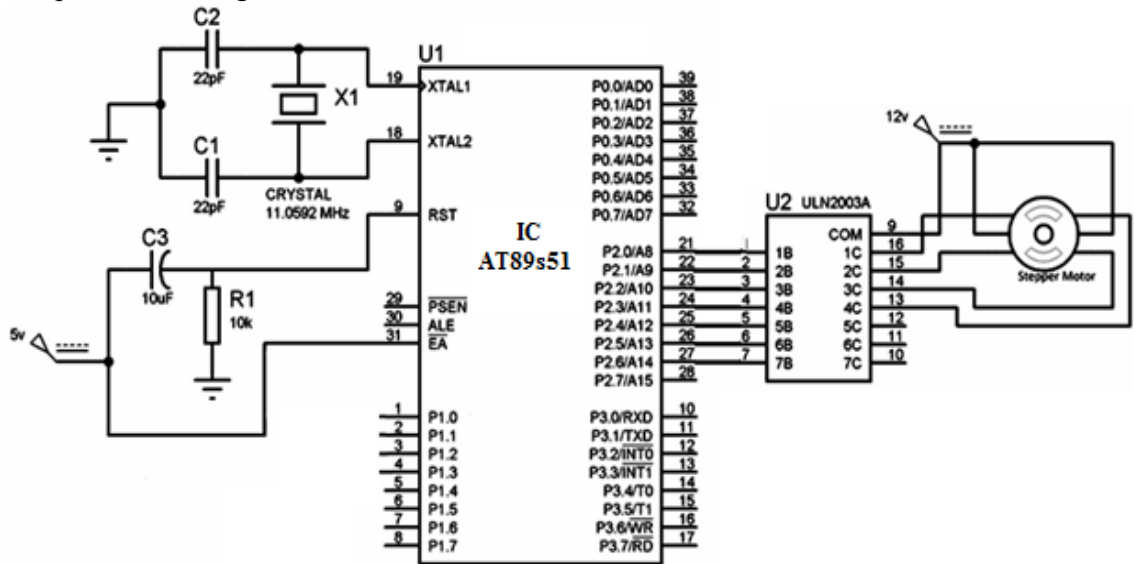

Figure 15.2: 89C51 connection to stepper motor
8. Interface stepper motor to microcontroller as per circuit diagram shown in Figure.15.2